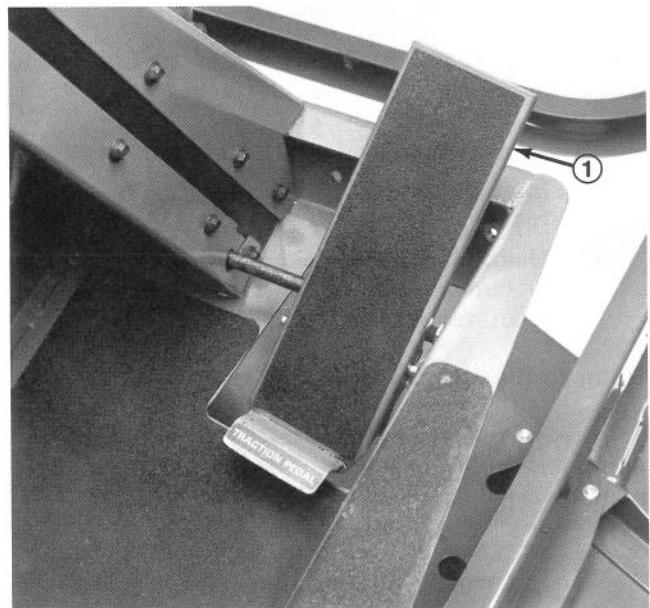

Figure 19
**Traction Pedal** (Fig. 19) — Traction pedal has two functions: one is to make the machine move forward, the other is to make it move rearward. Using the heel and toe of the right foot, depress top of pedal to move forward and bottom of pedal to move rearward. Ground speed is proportionate to how far pedal is depressed. For maximum ground speed, traction pedal must be fully depressed while throttle is in FAST position. Maximum speed forward is 10 mph (16 Km/hr) (approx.), 4 mph (6.4 Km/hr) (approx.) in reverse. To get maximum power under heavy load or when ascending a hill, have throttle in FAST position while depressing traction pedal slightly to keep engine rpm high. When engine rpm begins to decrease, release traction pedal slightly to allow rpm to increase.